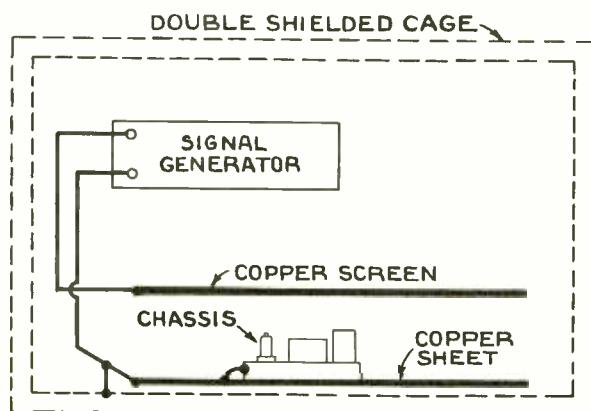

Fig. 1
If i is given, the left side of (2) can readily be found, when using a diagram originally due to Fleming. Plot i in a polar diagram with x as polar angle. (Fig. 1.) The area, resulting thereby, is equal to
The essentials of the test set-up consisted of placing the chassis under test between two metal plates, spaced to form a condenser with air as the principal dielectric. The set-up is shown in Fig. 1. By connecting the output terminals of a signal generator to the two plates, it was possible to create an r-f electric field between them. For the frequencies used in this test, the impedance of the capacitor composed of the two plates was large compared with the output impedance of the signal generator. The output readings of the signal generator were therefore taken as the values of the electric field between the plates.